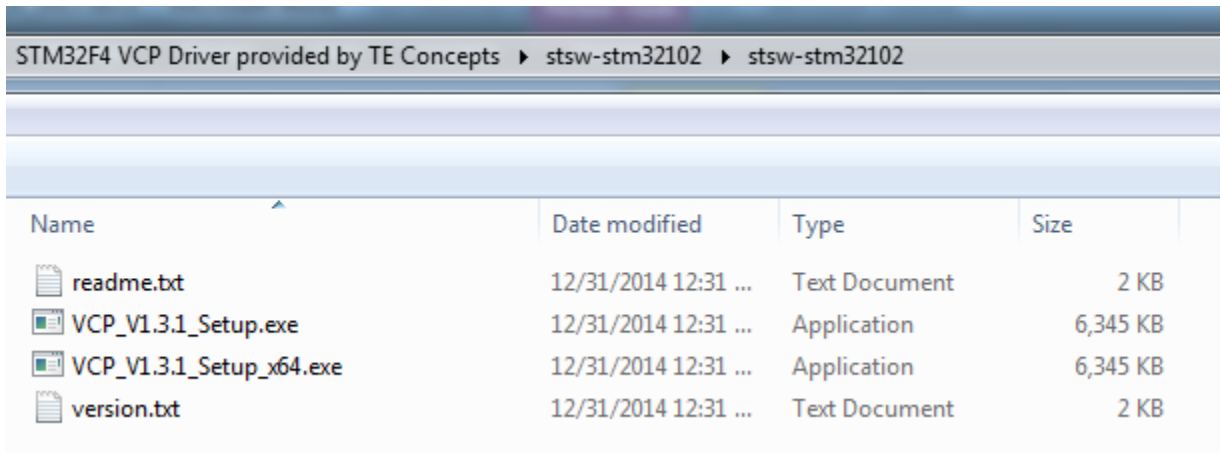

Figure 3. STM32F4 VCP Driver for 32-bit and 64-bit Windows 7/Windows 8.
3. Install the appropriate **STM32F4 VCP** driver depending on the version of Windows operating system (32-bit or 64-bit) as shown in Figure 3.